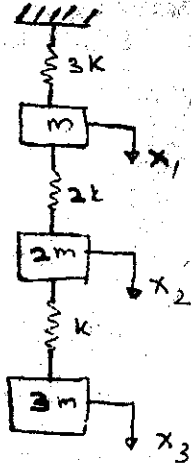

Fig. 1
- (b) Determine the influence coefficient of the spring-mass system shown in figure 1. (14)